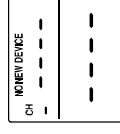

Figure 18
4. After learning reception is over the LCD shows "NO NEW DEVICE" in case no new device was found. (Figure 18)